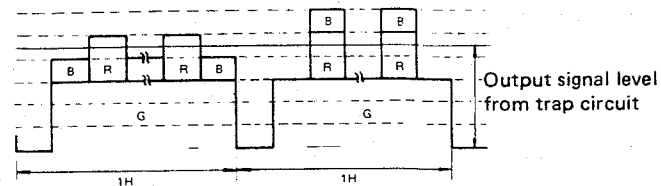

Fig. 11 Detection of Y signal
This signal is sent to the preamplifier, where it is amplified. The amplified signal (H) (see Fig. 12) from preamplifier is sent to the 3.58MHz trap circuit, which passes only the luminance (Y) signal (I) comprising the G signal and the mean value of the modulated R and B signals on adjacent scanning lines are equal so that the luminance signal corresponding to two successive lines is also equal (see Fig. 11) due to the characteristics of the trap circuit.